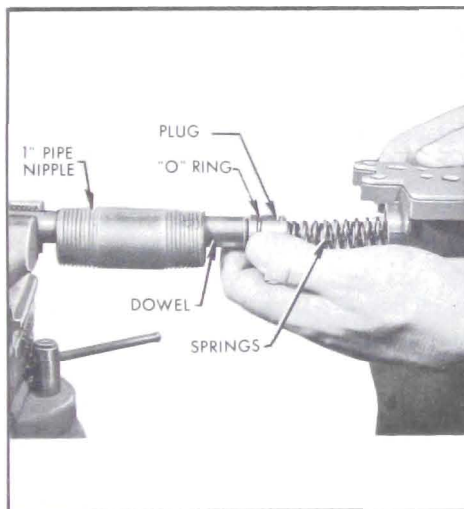
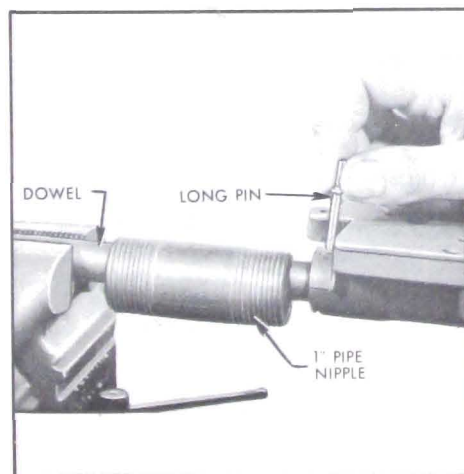

Figure 5-78—Installing Large Plug and Springs
Figure 5-79—Installing Plug Retaining Pin
4. Assemble spring seat on inner spring and install springs and seat into valve body through large plug opening. Clamp a drift or dowel in a vise and position a 1" I.D. pipe nipple over the dowel. Position plug and "O" ring over spring ends and against dowel. Slide pipe nipple over plug so that when pressure is exerted to compress springs into valve body plug will not slip off dowel. See Figure 5-78. Push valve body toward dowel to push plug into valve body. Install long retaining pin with shoulder toward valve body plate side of valve. See Figure 5-79.